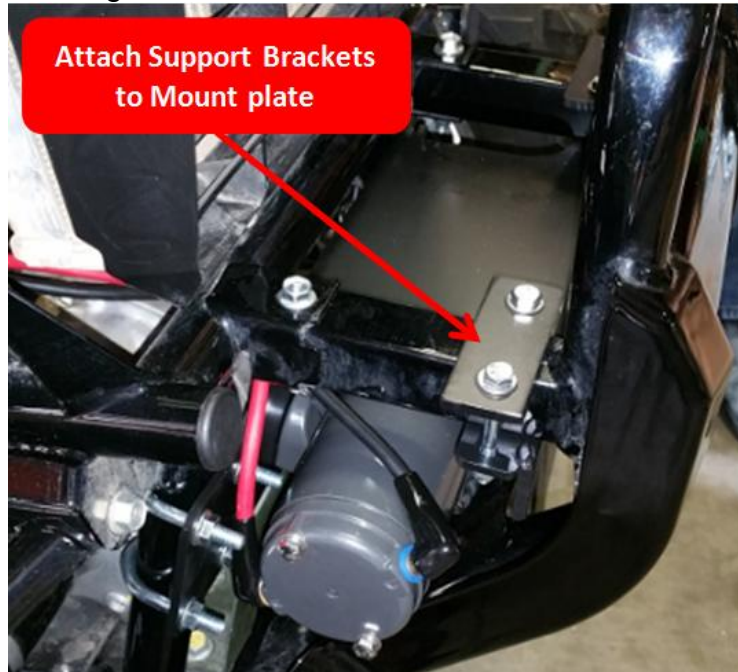

Figure 4
- 7) Install the Winch Support Brackets over the square bumper tubing. Use the 1/4" Hardware to secure the brackets to the winch mount plate. See Winch Mount Assembly View and Figure 4.